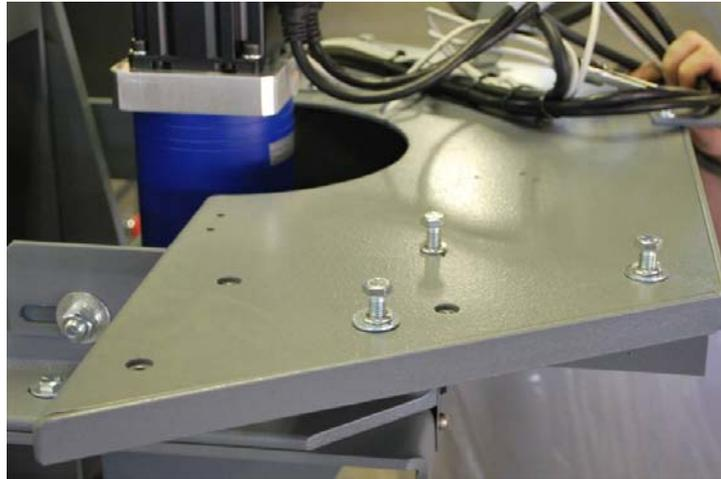
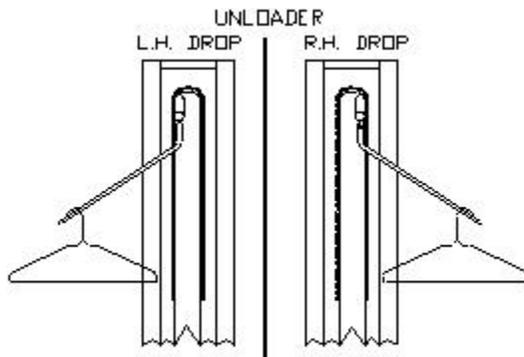

Figure 2 - Unloader Hole Pattern
Figure 5
- Carefully raise the unloader to a vertical position, then replace on the machine and tighten the three (3) bolts as indicated in Figure 2. Refer to Figure 5 for left or right hand positioning of the unloader. To change the unloader orientation, refer to **“Changing Unloader Direction”** later in the installation instructions.
5. Remount unloading rail plate onto automatic unloader. The rail should now be on the opposite side (Figure 5).